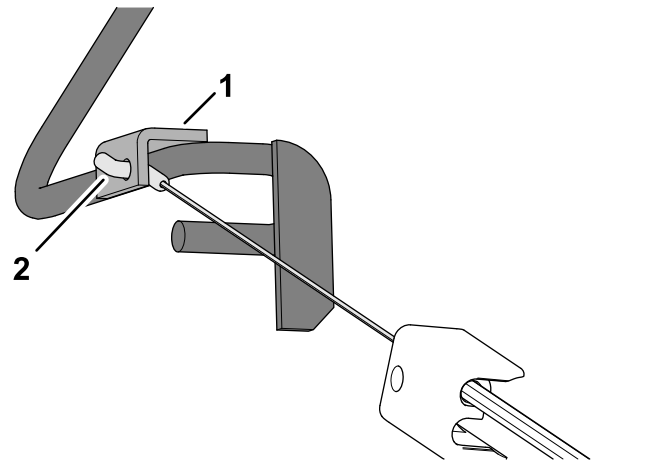

Figure 9
3. Insert the cable fitting through the hole in the bracket of the operator-presence bail as shown in Figure 9.